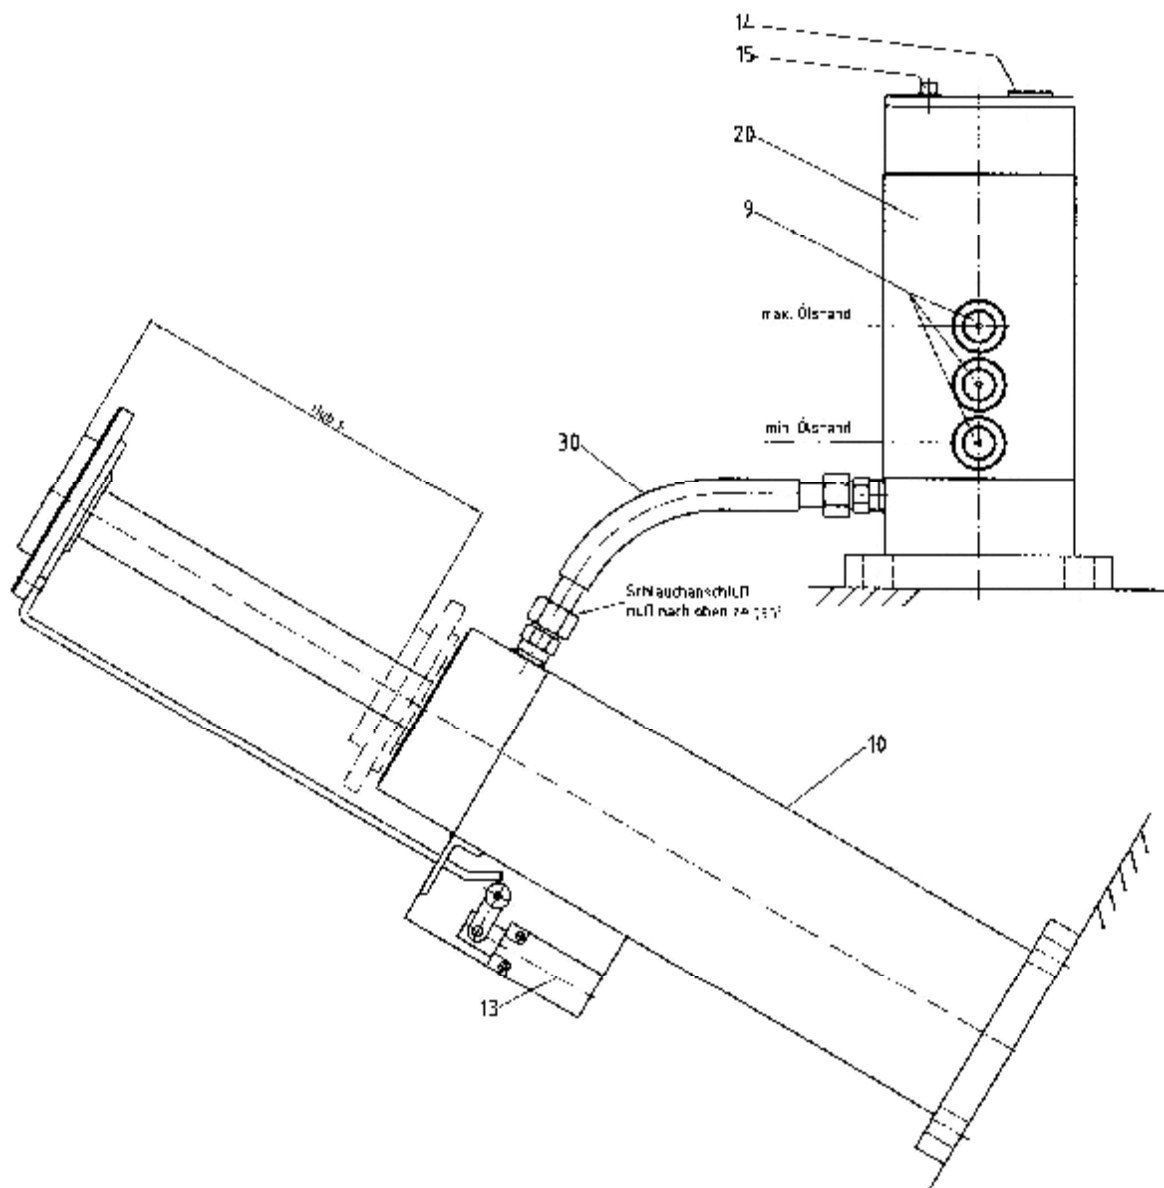

Figure 2: Mounting arrangement
- Only those mounting positions are admissible in which the piston rod runs horizontally or points upward (see figure 2).
- The connection for the connection line should be on the upper side of the buffer (see figure 2).
Carry out the electric connection to the limit switch **13** (Figure 2). During wiring the working